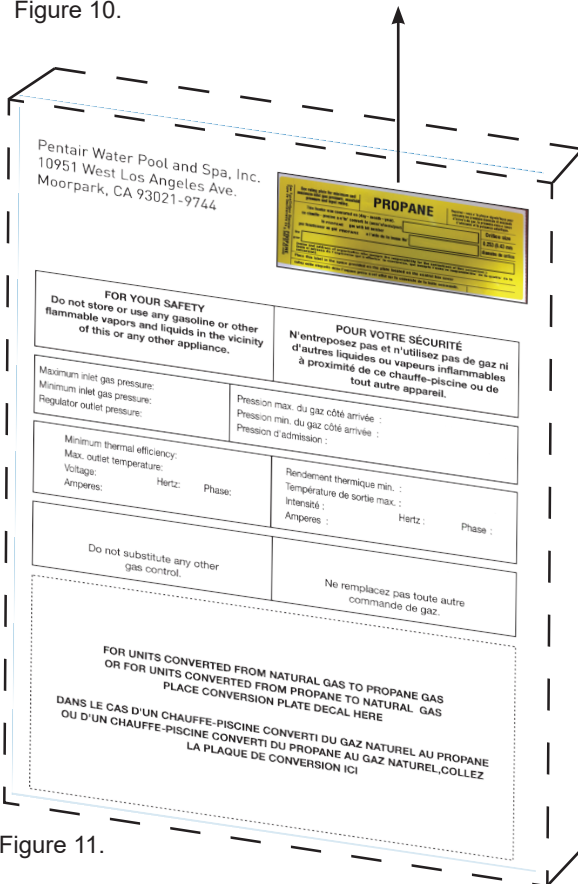

Figure 11.
19. **IMPORTANT:** Using a permanent fine-tip marker, mark on the conversion label the date of conversion and the name and address of the party making the conversion. Attach the conversion label on the area reserved for it on the existing appliance label. Using an alcohol swab, clean the surface before attaching the label. Peel off the backing strip and apply the label with uniform pressure over the entire surface. See Figure 11.